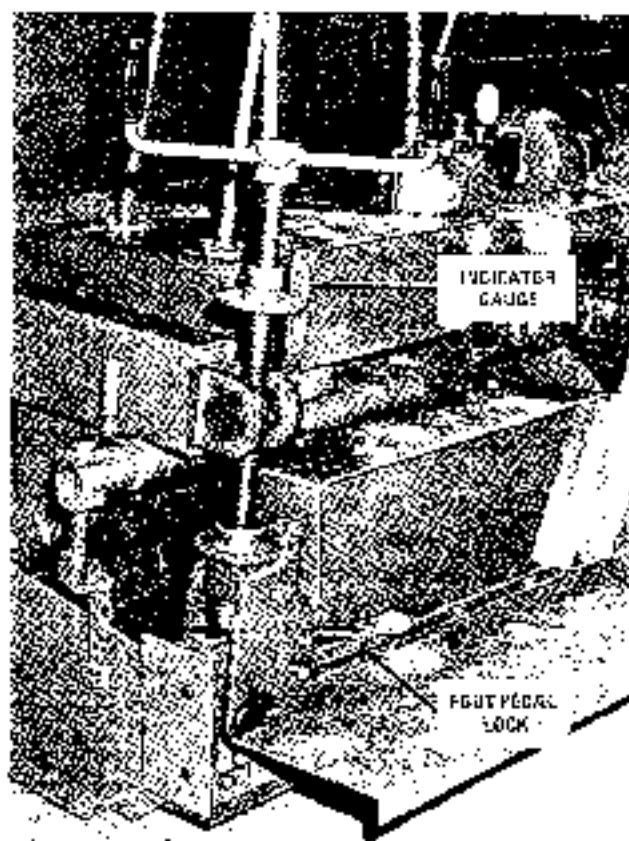

FIGURE C-8 - Thickness Control
THICKNESS CONTROL (Refer to Figure C-8.)
2. To decrease the depth, turn controls to the left or counterclockwise. A lock is provided at the lower end of the thickness control screws. Figure 8, to secure the position of the controls. This lock is released by means of a foot pedal. Figure C-8, when turning the controls.
4. An indicator gauge, Figure C-8, and dial are provided as a guide for the screed operator. When the controls are adjusted for a given depth, on material being laid, he will note the position of the controls. This will guide him in making adjustments up or down when needed, as machine progresses.